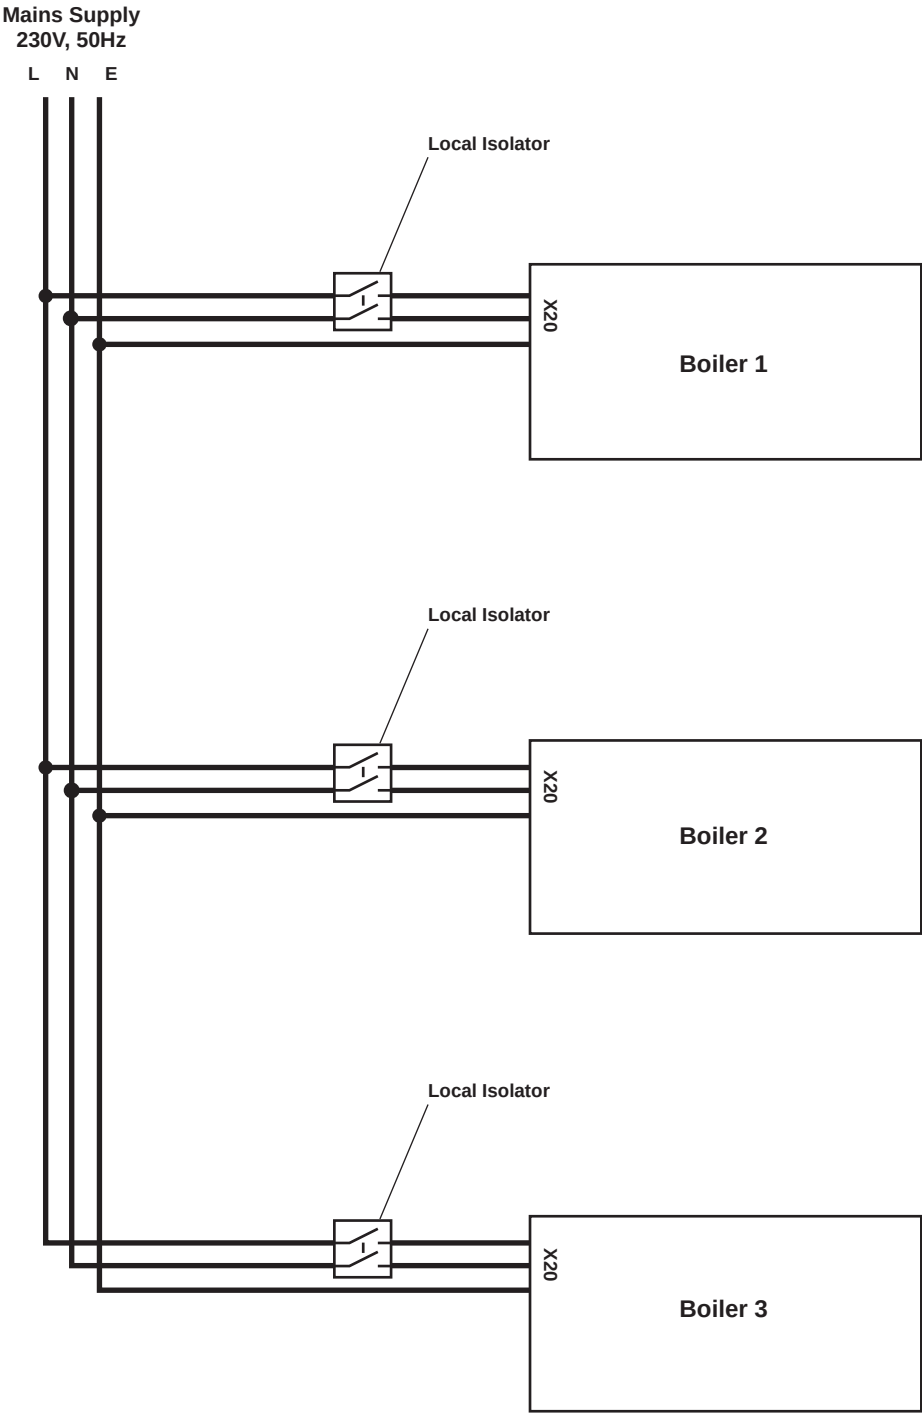

Fig 41. Typical Mains Supply Wiring
4. For a typical Mains Supply schematic please refer to Fig 41.